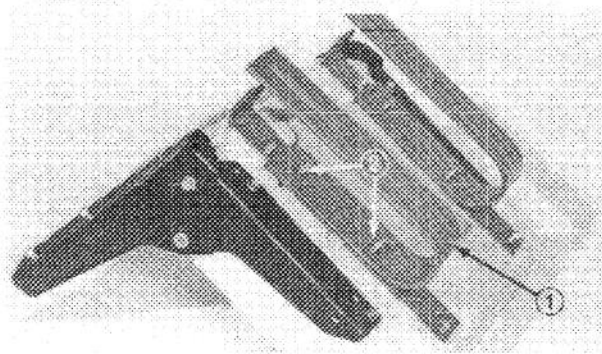

Figure 3
2. Loosely secure seat springs to seat mounts with four (4) hex nuts as shown in Fig. 3.